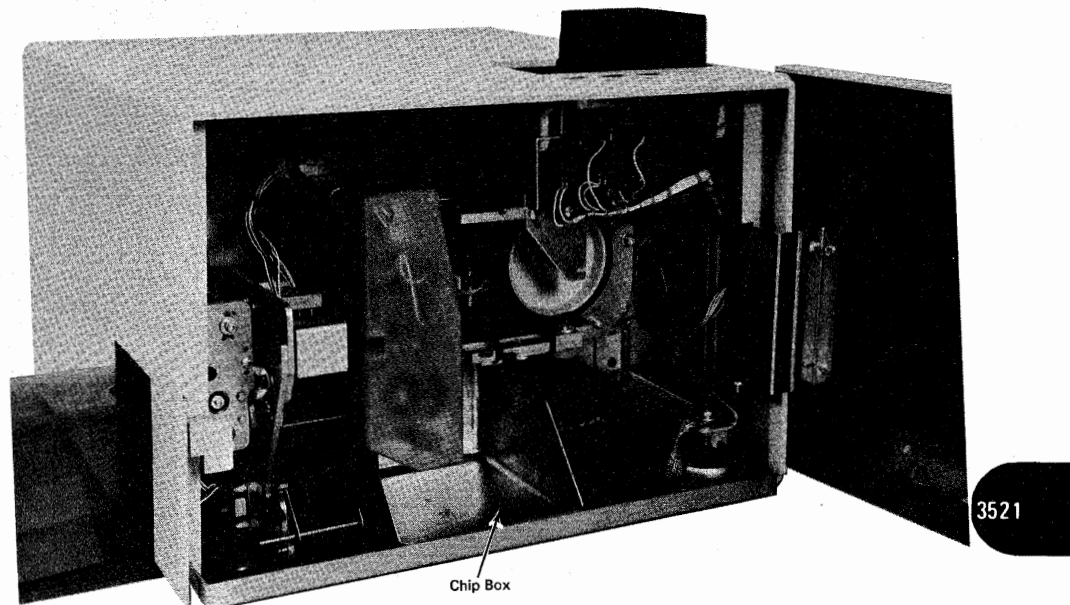

Figure 9-2. Emptying the Chip Box
- 3 Open the front cover (door) as indicated in Figure 9-2.
- 4 Remove the chip box (Figure 9-2).
- Open the front cover as shown in Figure 9-2.